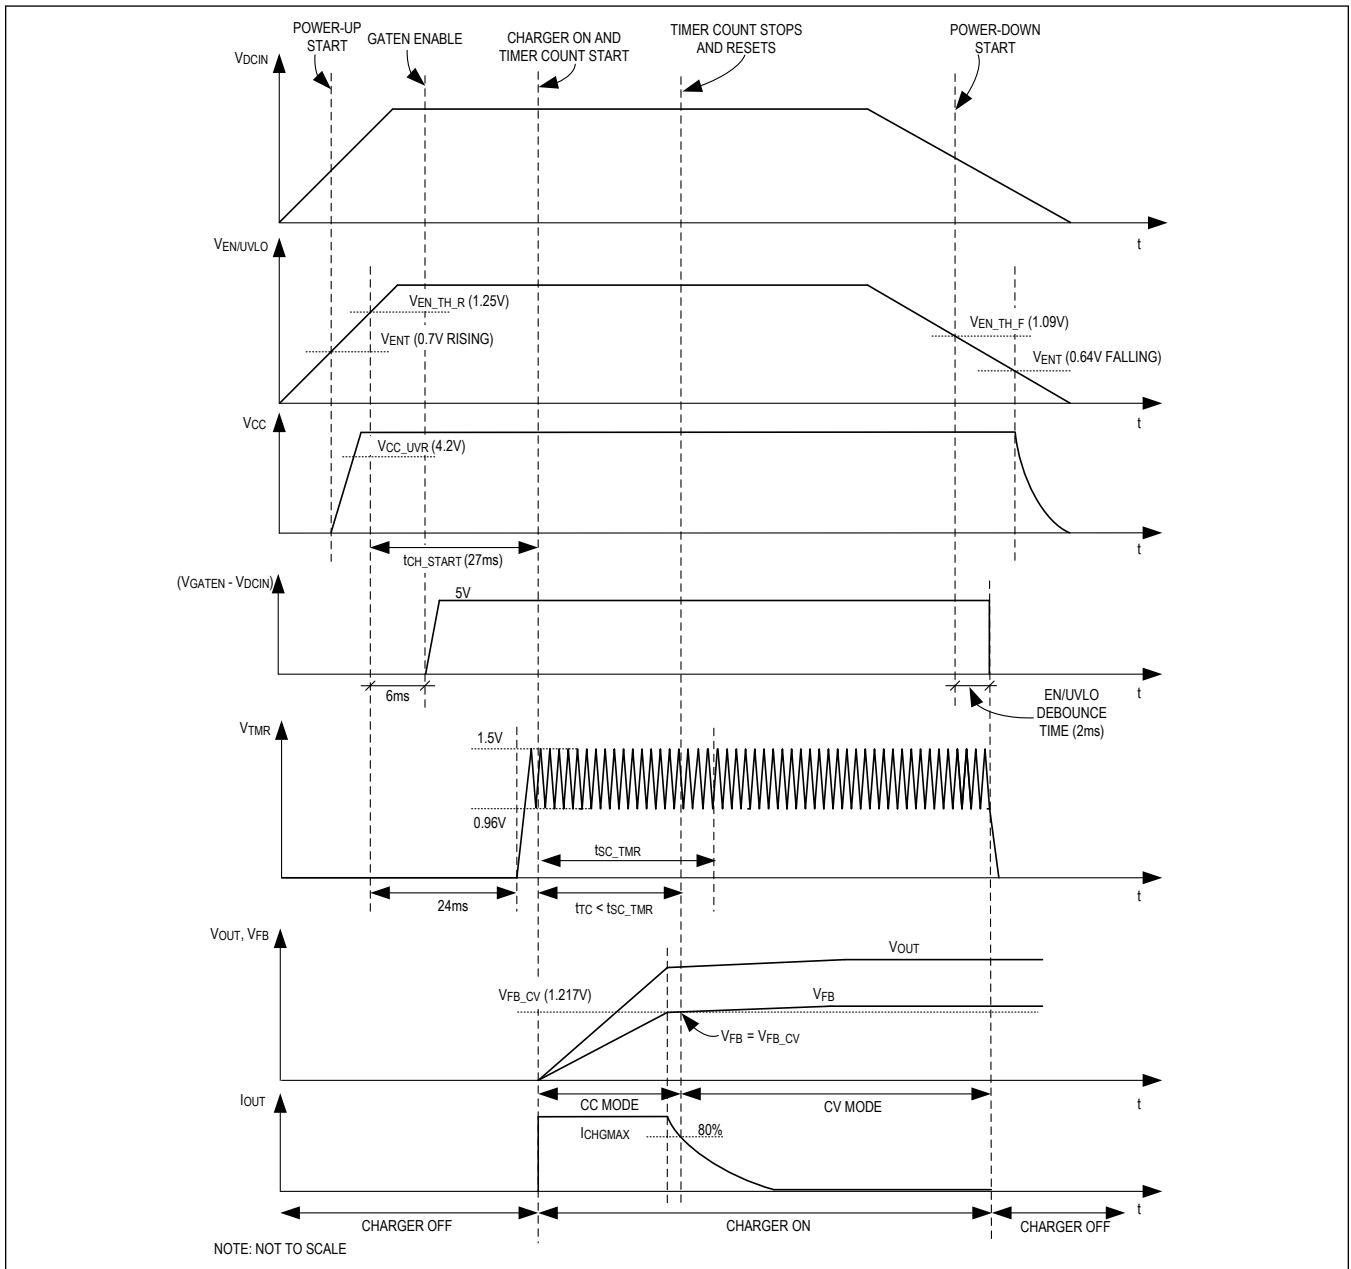

Figure 2. Charger Power-Up/Down Sequence
Figure 2 shows the MAX17701 power-up/-down sequence when DCIN voltage is applied/removed. When DCIN voltage reaches a level such that $V_{EN/UVLO}$ is around 0.7V (V_{ENT}) the INT-LDO regulator is enabled and V_{CC} rises. When V_{CC} rises above 4.2V (V_{CC-UVL}) and $V_{EN/UVLO}$ rises above 1.25V ($V_{EN_TH_R}$), the MAX17701 initiates EN/UVLO debounce and checks for hardware faults. If there are no hardware faults (see the Hardware Faults section) detected at power-up, the MAX17701 enables internal blocks during charger startup delay time t_{CH_START} . After this delay, the charger initiates LX switching and enters CC mode. In CC mode, the current is regulated at the CC mode charging current setting (I_{CHGMAX}). The safety timer counts the charging time in CC mode and if the output voltage reaches constant voltage mode ($V_{FB} > V_{FB_CV}$) within the safety timer setting (t_{SC_TMR}), the charger enters constant voltage (CV) mode and continues to operate.